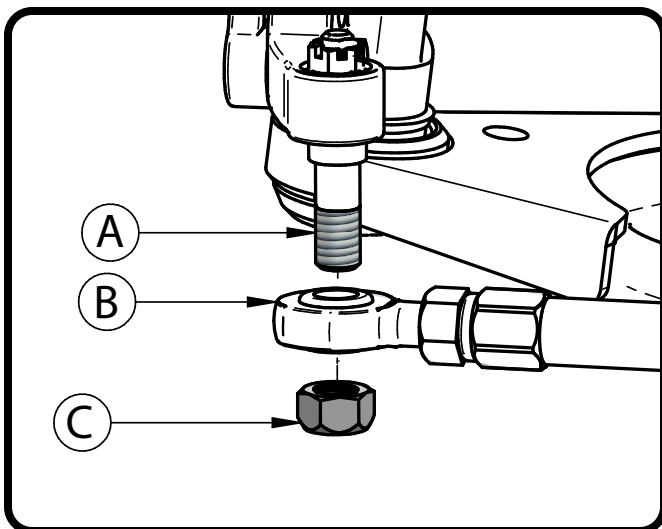

Figure 29
**34.** Slide the Heim end (B) onto the tie-rod stud (A). Next, thread the 5/8"-18 mechanical locking nut (C) onto the tie-rod stud (Figure 29). Torque the nut to **100 ft-lbs**.